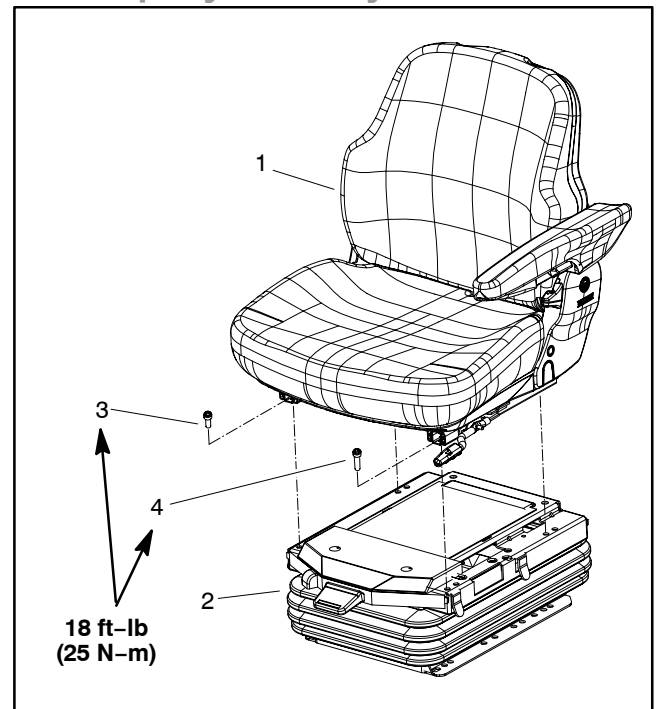

Figure 13
2. Remove seat from seat suspension (Fig. 13):
B. Remove four (4) Torx head screws that secure seat to seat suspension. Note that the screw near the seat adjustment handle is longer than the other three screws.
B. Secure seat suspension and two (2) wire harness r-clamps to seat platform with four (4) cap screws and flange nuts.
2. Install seat to seat suspension (Fig. 13):
B. Secure seat to seat suspension with four (4) Torx head screws. Make sure that longer screw is positioned near the seat adjustment handle.